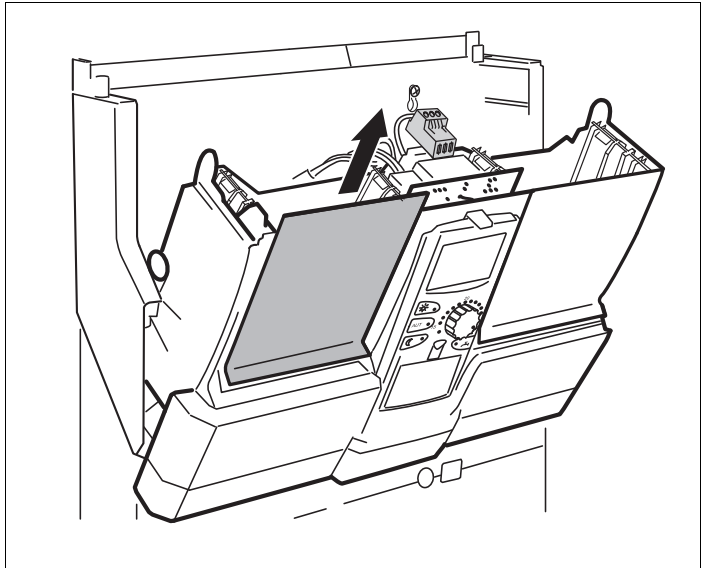

Fig 5 Removing blanking plate
- Remove blanking plate from slot 1 (→ Fig. 5) in the control unit.